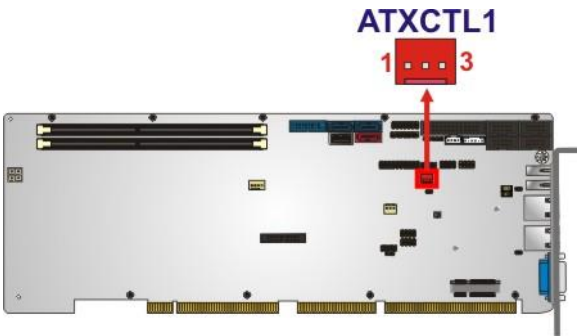

Figure 3-3: ATX Power Supply Enable Connector Location
- CN Location:     See **Figure 3-3**